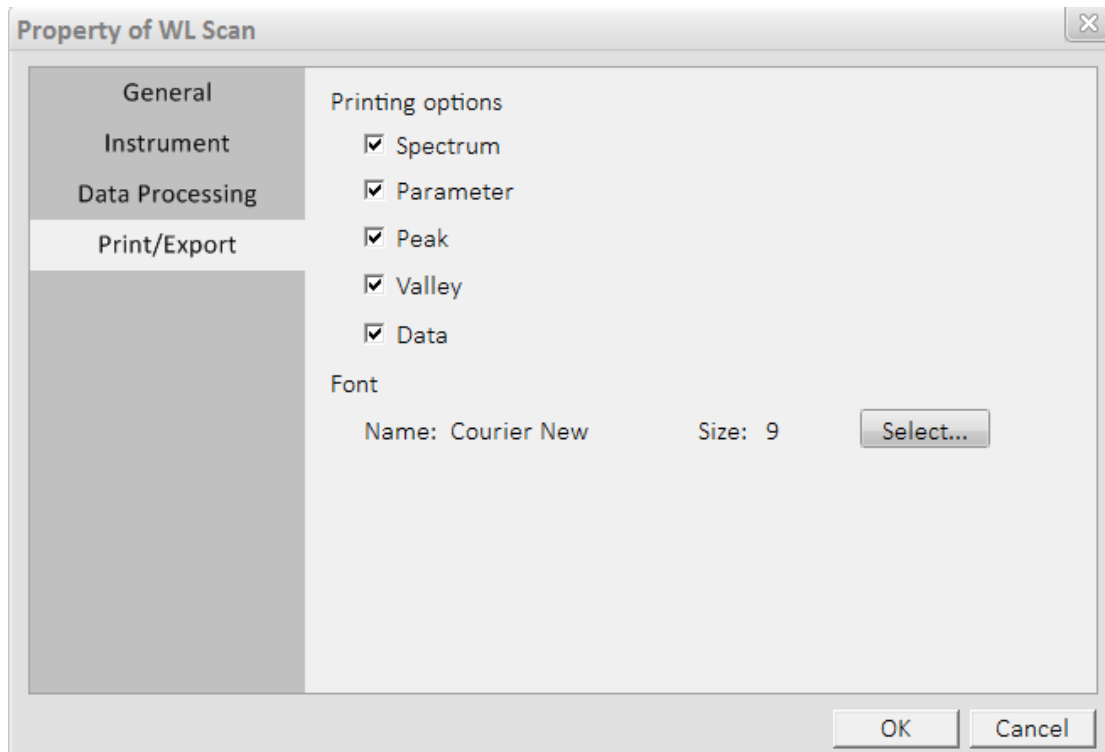
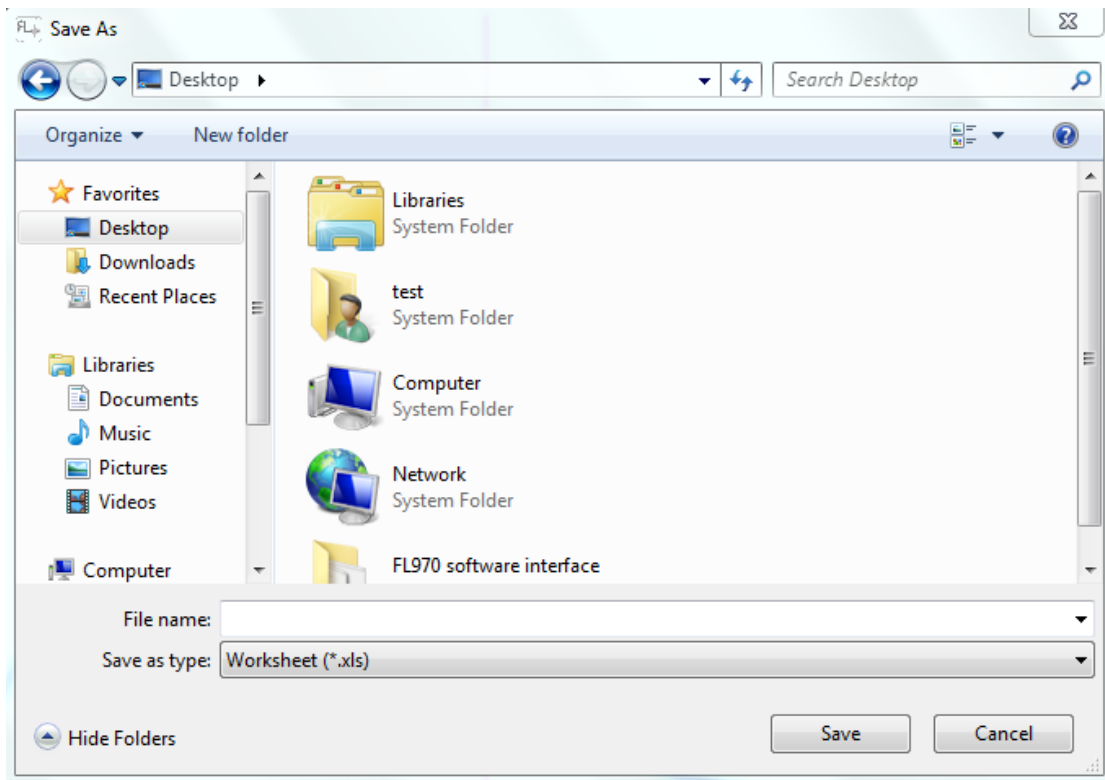
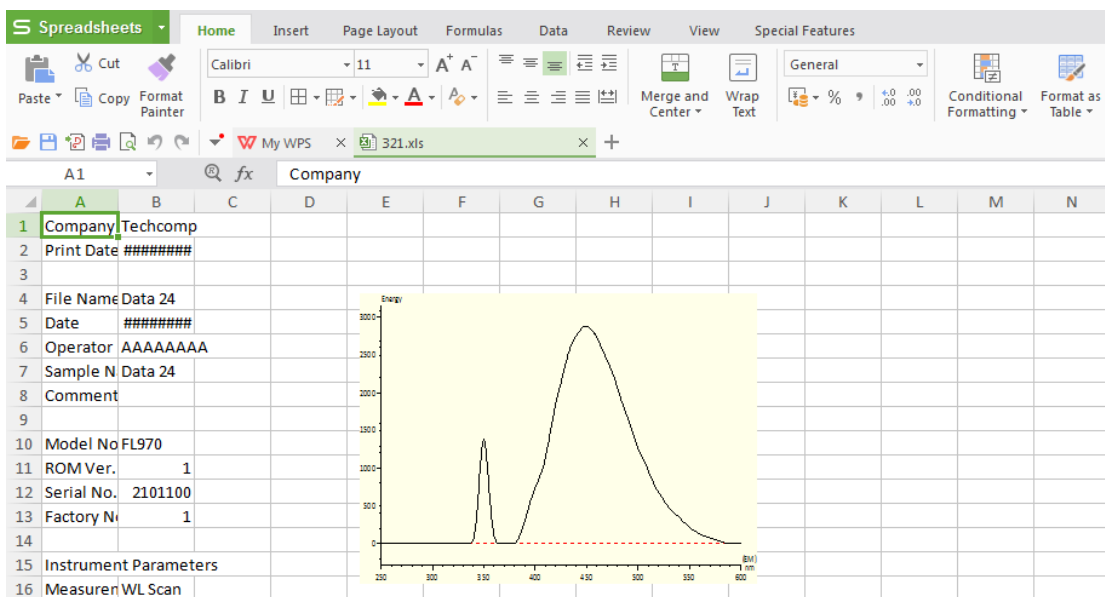

Figure 3-29 Dialog box of Print/Export after clicking the “View parameters” button for WL Scan
Figure 3-30 Dialog box of “Save As” after clicking the excel icon for WL Scan
Figure 3-31 Excel display window after clicking the “Save” button
- The fourth page is “Print/Export”, as shown in Figure 3-29. Print report/export file, the checked items are displayed and the font and size can also be selected. The default size of the font is 9. It is better not to change it. If the font size is changed, it may lead to typesetting confusion.
8) Check in front of “Data” in Fig 3-29, and then click the “OK” button. Click “” Microsoft Excel icon in the upper right of the spectrum window, and save as dialog box appears as shown in Figure 3-30. Select the storage location, enter the file name, click “Save” button, the Figure 3-31 appears. Then the scanned spectrum can be processed in Microsoft Excel software.